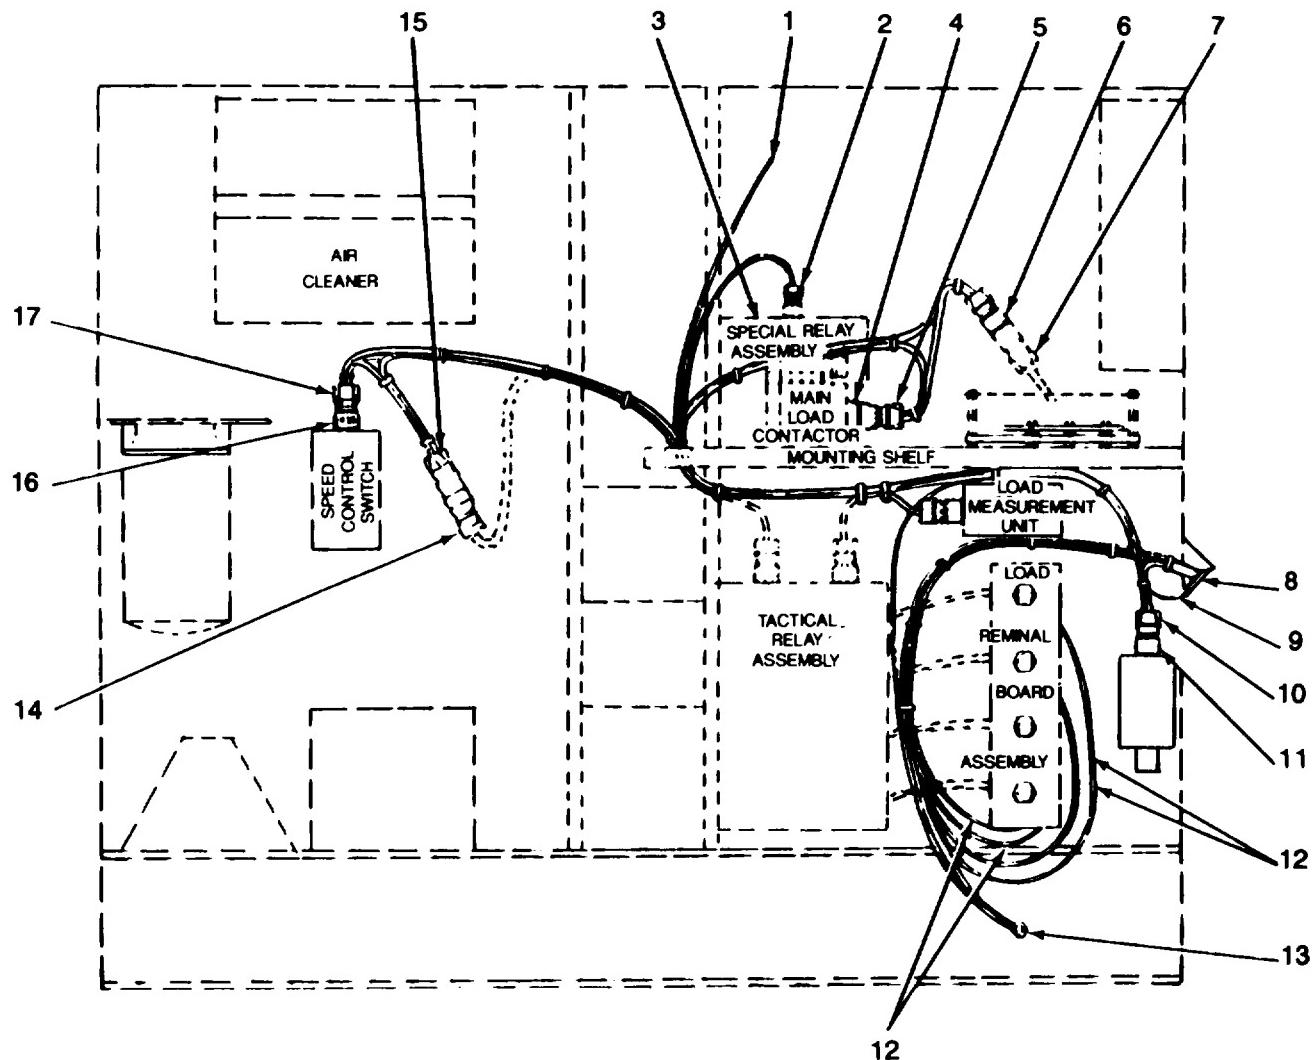

Figure 5-25. Application Kit Cable Harness Assembly Installation (Right Side)
- (d) Feed cable harness assembly (1, figure 5-25), attached to connector plate assembly (2), through the opening made by the removal of plate and sleeve assembly.
Insure the dust cover retaining chain (figure 5-25) on connector J1 is mounted on the lower right hand mounting screw of connector. A third lockwasher is added between the mounting nut and ground lug on connector mounting screw.
- (d) Route remaining eleven No. 16 AWG wires between top of load measurement unit and bottom of mounting shelf (refer to figure 5-25).
- (e) Locate three wires (P18A16N, P18B16N, and P18C16N) with a ring type terminal lug. Route the wire downward between load terminal board assembly and tactical relay assembly to generator set chassis grounding stud (13, figure 5-25). Remove ground stud nut, place ring type terminal over stud on the inside of generator set. Replace nut and tighten securely.
- (g) Position cable branch consisting of four wires ending in screw connectors P4 and J3 (5 and 6, figure 5-25) rearward on the relay table top between main lead contactor and the special relay assy. Disconnect main load contactor connector.
- (h) Route single wire ending in screw in screw-type connector P7 (2) to connecting point J29 (3) on top of special relay assembly. Remove dust cover and connect P7 to J29.
- (j) Route two remaining wires ending in the screw-type connectors P6 and J5 (15 & 17, figure 5-25) into engine compartment following path of existing wires to the engine speed switch. Disconnect existing speed switch plug (14, figure 5-25) from its connector (16) and connect cable harness connector (17) in its place. Connect existing plug (14) to remaining cable harness connector (15).
- (d) Connect test leads of ohmmeter to pins E and M on connector J1 (8, figure 5-25). Ohmmeter should indicate continuity.